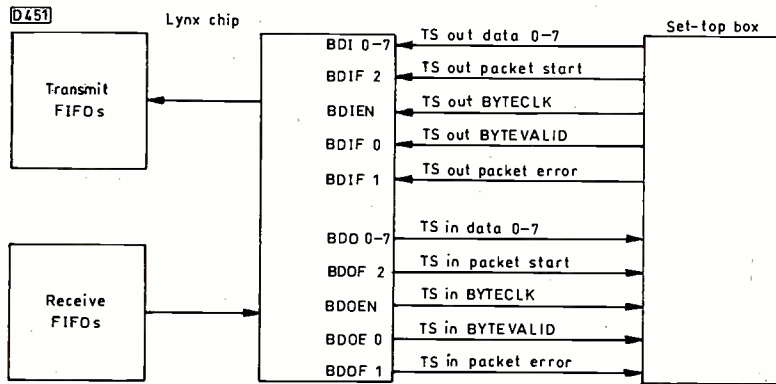

Fig. 3: Asynchronous connections between the MPEG-2 Lynx and set-top box circuitry.
Fig. 3 shows how time-stamped (TS) asynchronous data is passed between the Lynx chip and the set-top box control circuitry, together with error-control checks and timing signals.